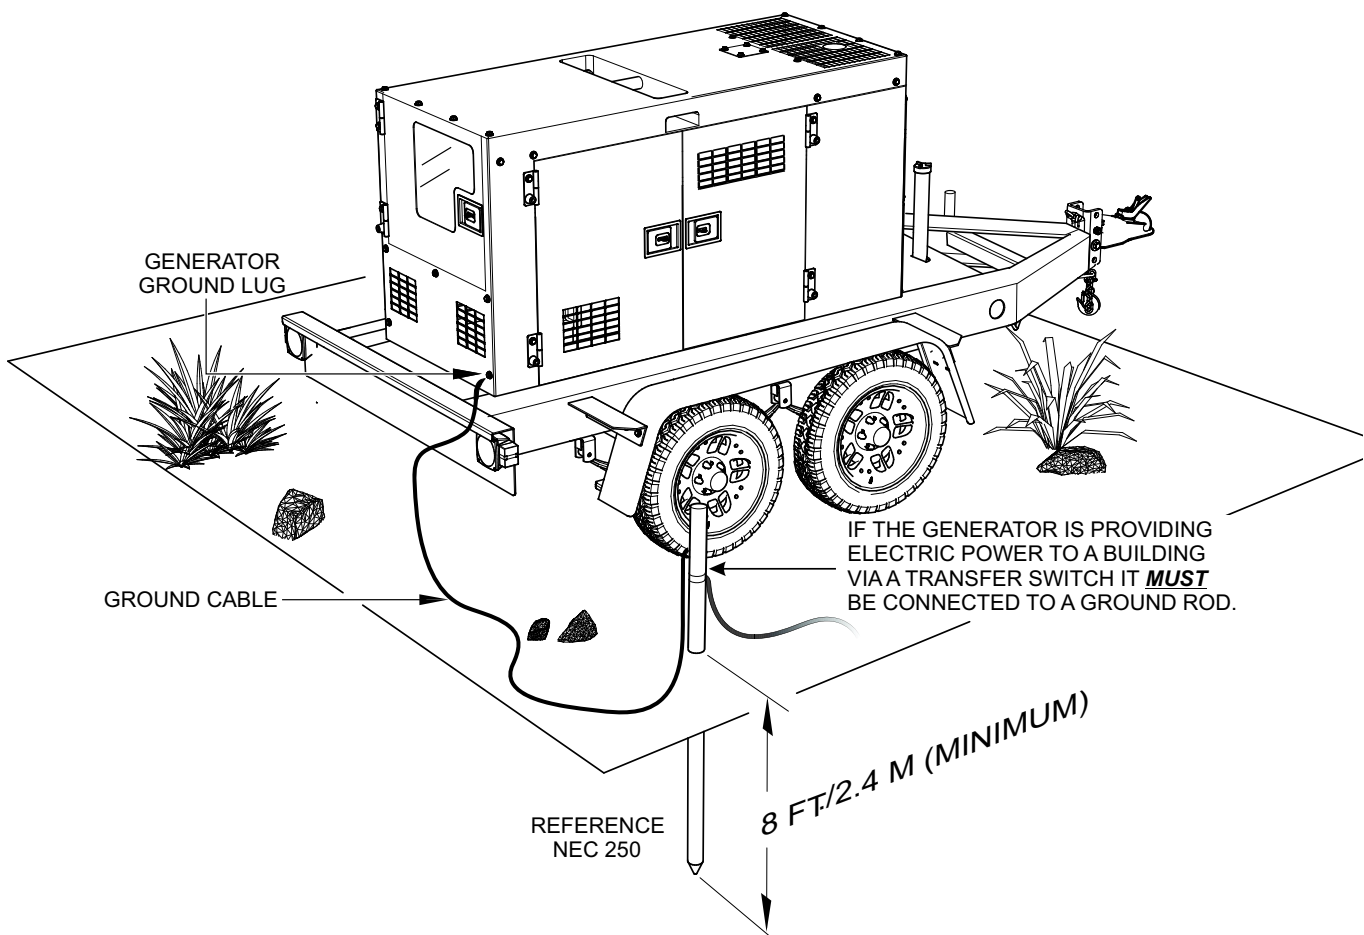

Figure 2. Generator Grounding
Connect one end of the ground cable terminal to the generator ground point (Figure 2). Connect the other end of the ground cable to a suitable earth ground (ground rod).
The Occupational Safety and Health Administration (OSHA) and the National Electrical Code (NEC) recommend that if the generator is providing electrical power to a structure (home, office shop, trailer or similar) it **must** be connected to a grounding electrode system, such a driven ground rod (Figure 2).
If applicable, to guard against electrical shock and possible damage to the equipment, it is important to provide a good **EARTH** ground, (Figure 2).
2. When grounding of the generator (Figure 2) is required, connect one end the ground cable to the ground lug on the generator. Connect the other end of the ground cable to the ground rod (earth ground).